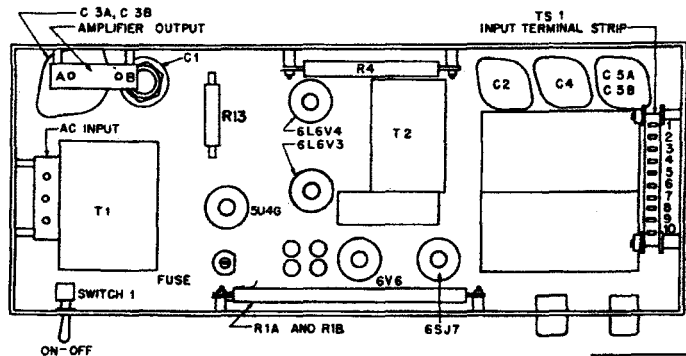

Fig. 3
1. Connect an a-c power cord to the two terminals on the a-c input terminal strip shown in Figure 3.
2. Connect the required output load (loud-speaker's or other) to the terminals on the amplifier output terminal strip (Fig. 3).
Connect the output leads to the terminals marked A and B on the output terminal strip (Fig. 3). Bring the leads into the amplifier by punching out the knockout on the rear-right side of the chassis.